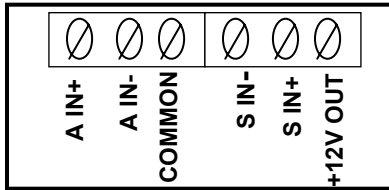

Figure 14
7. Insert the sensor’s +DC power input wire into the **+12V OUT** terminal and secure the wire by turning the terminal’s screw clockwise. (*Refer to the MX001 box or to Figure 14 for the order of the terminals for the sensor wires.*)